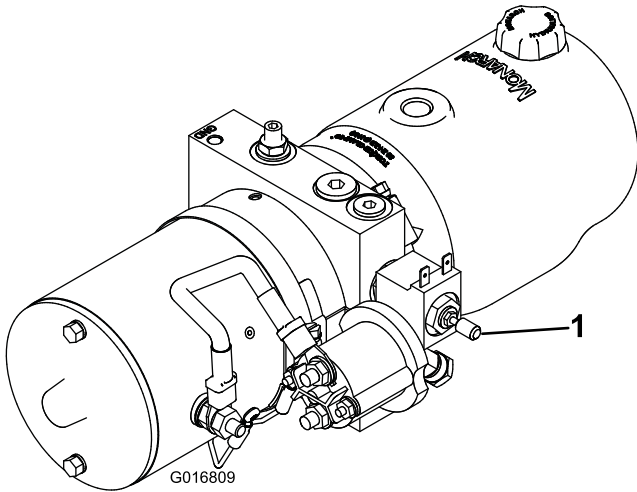

Figure 20
1. Push the blue knob inward, rotate it 90 degrees counterclockwise, and pull it out to activate the emergency lowering valve (Figure 20).
2. To stop the lift and return it to normal operation, push the blue knob inward, rotate it 90 degrees clockwise and pull it out (Figure 20).